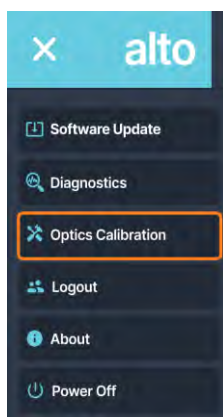

Figure 5.7: Optical calibration selection on the Alto Control Software menu.
1. Click on the main menu button of the Alto Control Software to open the menu and select “Optics Calibration” (Figure 5.7).